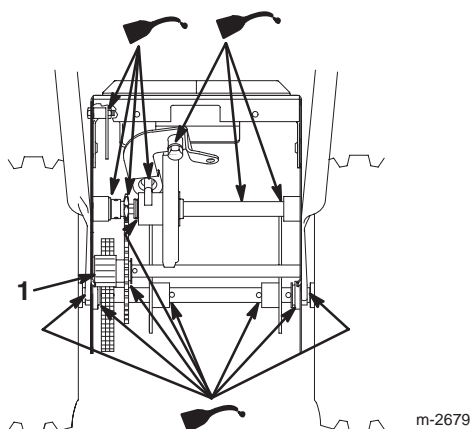

Figure 31
6. Lightly lubricate the snowthrower with light oil as shown in Figures 31 and 32.
8. Lightly grease the axle gear (Fig. 31).